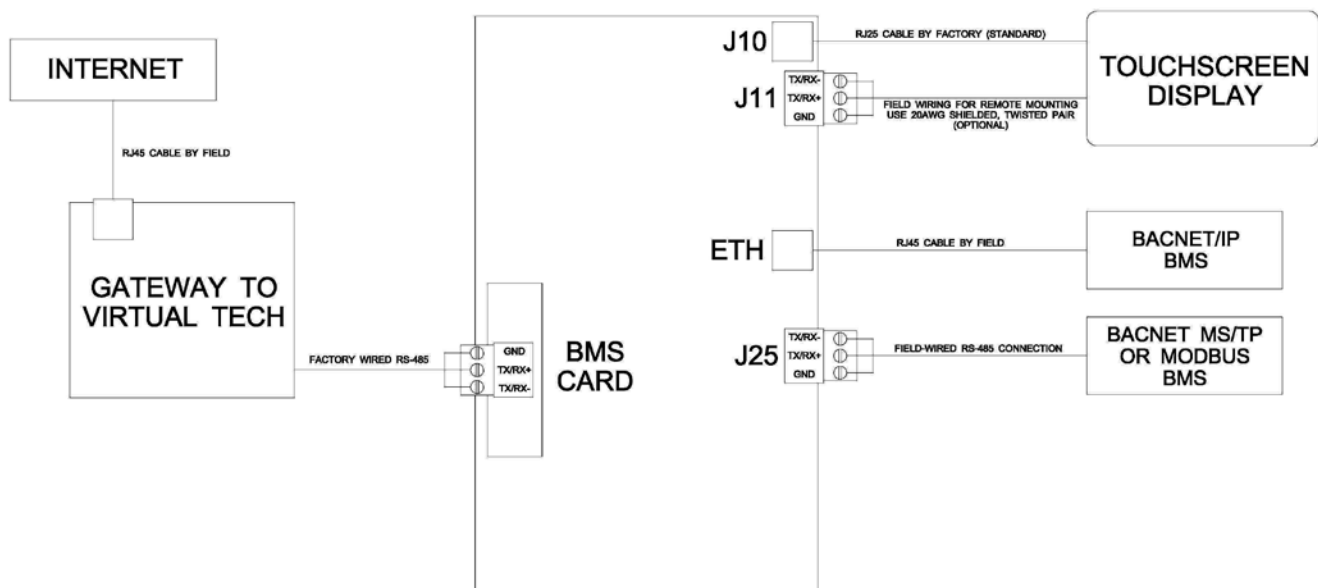

Figure 29. PPK CM1 Main Control Module
- ▶ When required, the touchscreen can be removed from the unit control panel and installed at a remote location up to 1000' of wire length from the dehumidifier. In this case, the connection to the unit is accomplished with 20AWG shielded, twisted pair cable as shown in Figure 29.
- Connection consists of an RJ45 Ethernet cable connected to the port on the dehumidifier main control module CM1 as shown in Figure 29.
- Connection consists of a 20AWG shielded, twisted pair cable connected to port J25 on the dehumidifier main control module CM1 as shown in Figure 29.
- This connection is accomplished with an RJ45 cable connected to the Virtual-Tech® Gateway in the unit control panel as shown in Figure 29. The other end of the RJ45 cable should be connected to an appropriate location on the building network. For more details on this connection, please refer to the Virtual-Tech® Installation Guide.